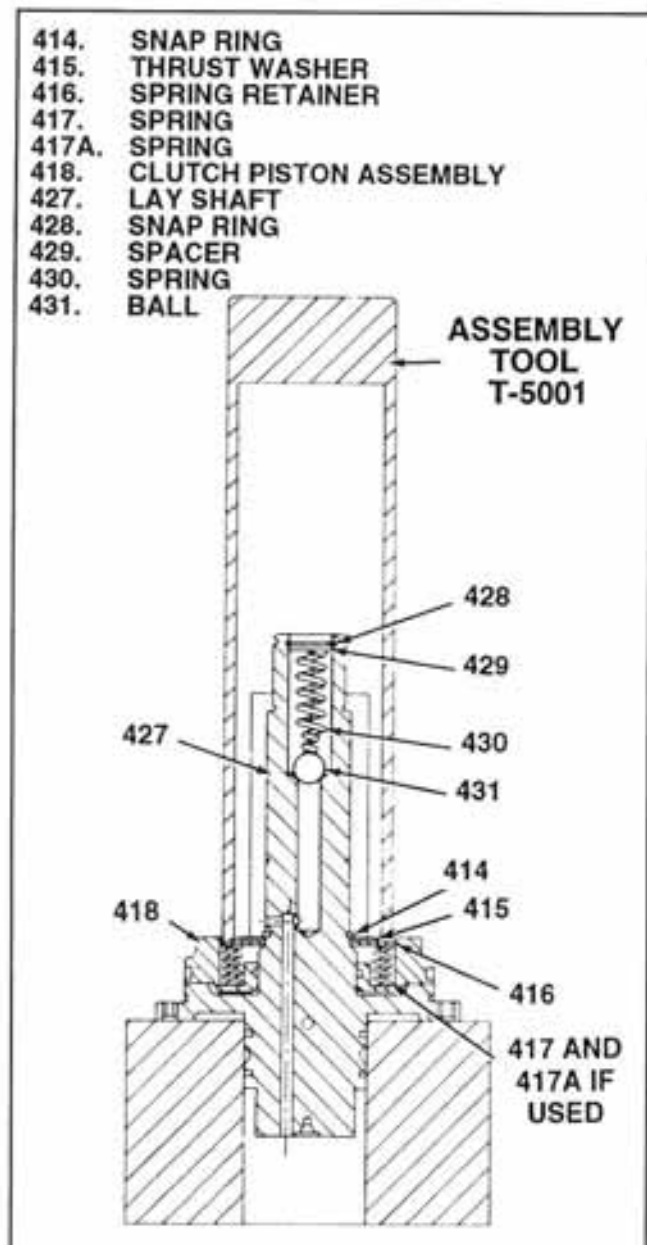

Figure 5-2. Installing Snap Ring
4. Install clutch piston assembly (418) on lay shaft (427) with sixteen spring holes facing away from shaft flange. Seat piston against shaft flange.
5. Support lay shaft with parts previously installed in suitable holding fixture (see figure 5-2) in arbor press.
6. Install springs (417, and if used 417A) in holes in clutch piston assembly (418) as follows:
a. For transmissions 2001-000-011 thru -016, and 2001-000-R01 thru 2001-000-R06 install sixteen springs (417).
b. For transmissions 2001-000-001 thru -006, first install four springs (417) equally spaced. Then install three springs (417A) between each of the springs (417)—twelve springs (417A) total.
7. Install spring retainer (416) and thrust washer (415). Expand snap ring (414) and slide onto shaft
8. Using assembly tool T-5001, press down on spring retainer (416) to compress springs (417, and 417A if used) and provide access to shaft groove for snap ring (414) (see figure 5-2). Install snap ring in shaft groove. Remove shaft assembly, holding fixture and assembly tool from arbor press. Remove assembly tool from shaft assembly.